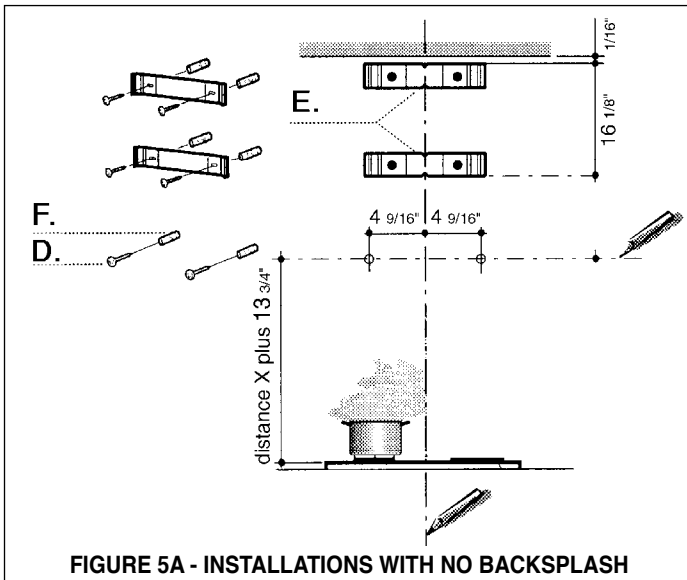

FIGURE 5A - INSTALLATIONS WITH NO BACKSPLASH
3. Based on your ceiling height and/or personal preference, determine the distance you would like between the bottom of the hood and the cooktop (**distance X in FIGURE 4A OR 4B**). Draw a horizontal line the height of **distance X plus 13 3/4"** (as indicated in **FIGURE 5A - INSTALLATIONS WITH NO BACKSPLASH**).
7. For the most secure installation, the MOUNTING SCREWS (**D**) which mount the CANOPY SECTION (**A** in **FIGURE 1**) should be installed into wood. Mark the wall along the horizontal line 4 9/16" in from the center line on either side (as indicated in **FIGURE 5A or 5B**) and install the MOUNTING SCREWS into the wall leaving about 1/4" gap between the wall and the head of the screw.